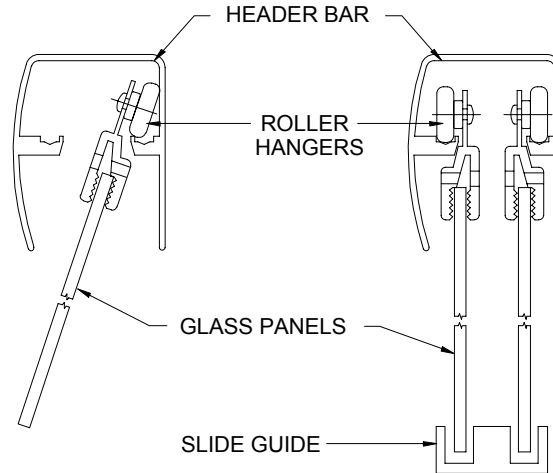

Figure 6
1. Insert glass panels into the header bar and then the bottom slide guide. **SEE FIGURE 6.**